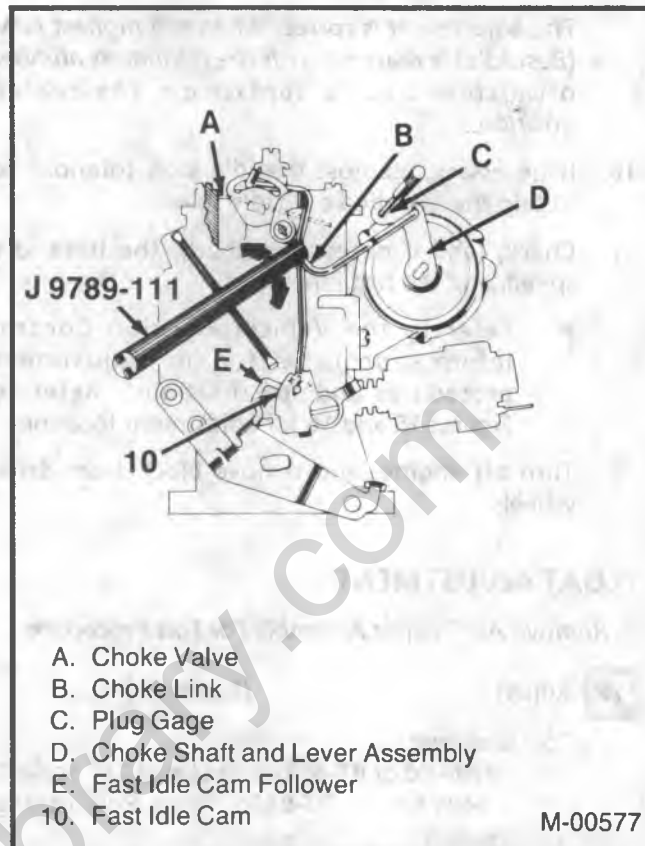

Figure 20 – Choke Stat Lever Adjustment
**Adjust** (Figure 20)
4. If the gage does not pass freely through both holes, use J 9789-111 or BT-3006M to bend the choke link at point shown in (Figure 20) to align the holes.